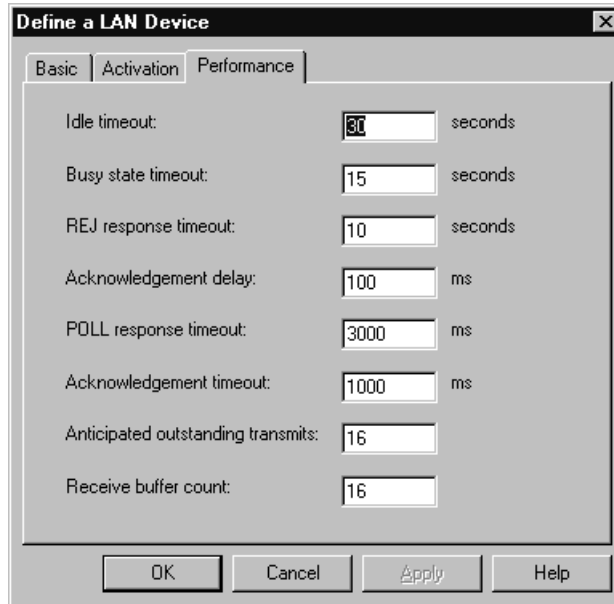

Figure 99. Define a LAN device: performance page
- 7 On the Performance page, use the same values that are shown in the Figure 99.